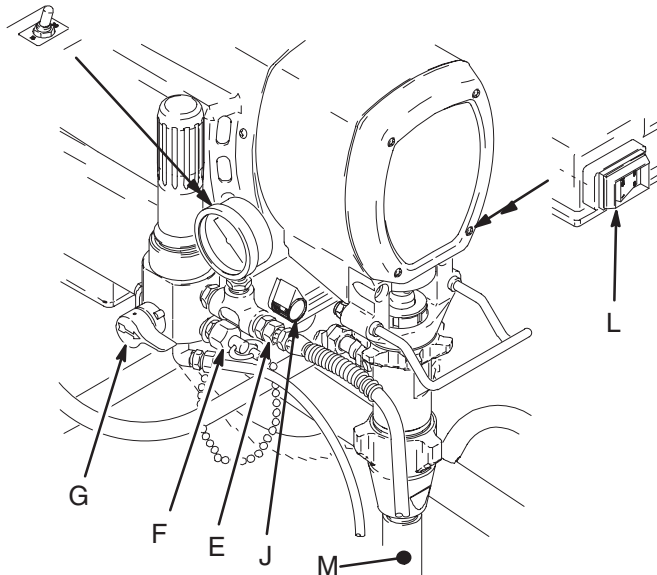

Fig. 4
**NOTE:** See Fig. 4 except where noted.
1. Close pressure drain valve (G).
3. Put suction tube (M) into paint container.
4. Turn pressure adjusting knob (J) fully counter-clockwise to zero pressure.